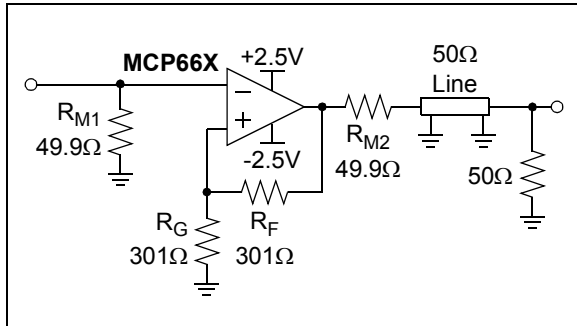

FIGURE 4-10: 50Ω Line Driver.
Differential gain (DG) and differential phase (DP) refer to the non-linear distortion produced by an NTSC or a phase-alternating line (PAL) video component. Table 1-2 and Figure 2-34 show the typical performance of the MCP661, configured as a gain of +2 amplifier (see Figure 4-10), when driving one back-matched video load (150Ω, for 75Ω cable). Microchip tests use a sine wave at NTSC's color sub-carrier frequency of 3.58 MHz, with a 0.286VP-P magnitude. The DC input voltage is changed over a +0.7V range (positive video) or a -0.7V range (negative video).
Figure 4-10 shows the MCP661 driving a 50Ω line. The large output current (e.g., see Figure 2-18) makes it possible to drive a back-matched line ( $R_{M2}$ , the 50Ω line and the 50Ω load at the far end) to more than ±2V (the load at the far end sees ±1V). It is worth mentioning that the 50Ω line and the 50Ω load at the far end together can be modeled as a simple 50Ω resistor to ground.